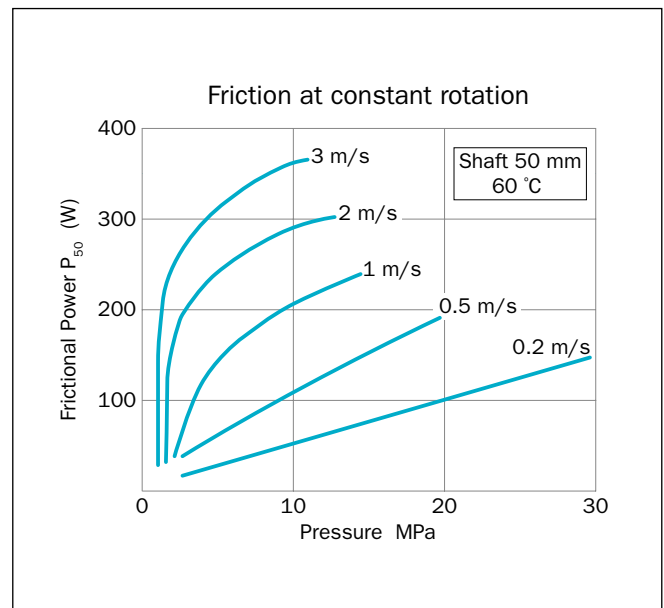

Figure 157: Frictional power for Turcon® VL Seal® F
Guide values for the frictional power (P) can be determined from the graph in Figure 157. They are shown as a function of the sliding speed and operating pressure for a shaft diameter of 50 mm with an oil temperature of +60 °C. At higher temperatures, these application limits must be reduced.